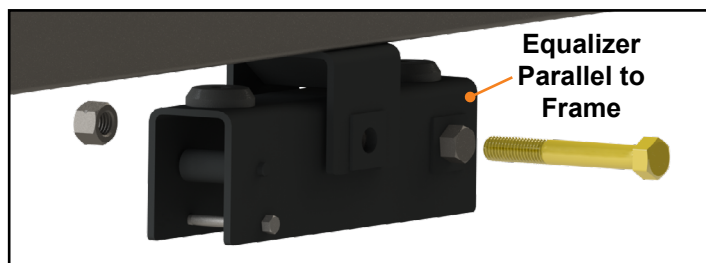

Fig.19
12. Using the 1 1/8" bolts and nuts, attach the equalizers to the hangers (Fig. 19).